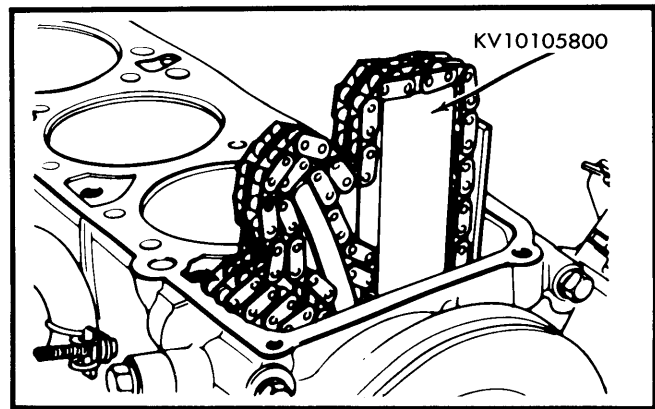
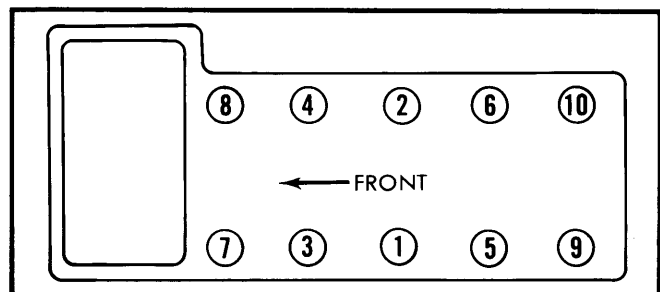

Fig. 1 Holding Timing Chain with Special Support Tool
Fig. 2 Cylinder Head Tightening Sequence
5) Remove camshaft sprocket and use retainer tool (KV10105800) to support timing chain as shown in Fig. 1. Remove cylinder head attaching bolts in reverse of sequence shown in Fig. 2. Remove cylinder head.
4) Remove camshaft sprocket and use retainer tool (KV10105800) to support timing chain as shown in Fig. 1. Remove cylinder head attaching bolts in reverse of sequence shown in Fig. 2. Remove cylinder head.
4) Turn crankshaft so No. 1 piston is at TDC on compression stroke. Paint alignment marks on timing chain and camshaft sprocket to aid in installation. Remove camshaft sprocket and use retainer tool (KV10105800) to support timing chain as shown in Fig. 1. Remove cylinder head attaching bolts in reverse of sequence shown in Fig. 2. Remove cylinder head.
2) Insert head bolts and tighten ① and ② to 14 ft. lbs. (2.0 mkg). Install and align sprockets and timing chain. Install remaining components in reverse order of removal, using new seals, gaskets and sealant where required.
3) Tighten head bolts in several steps in the sequence illustrated in Fig. 2 to final specified torque. Recheck torque after engine has been running for several minutes.